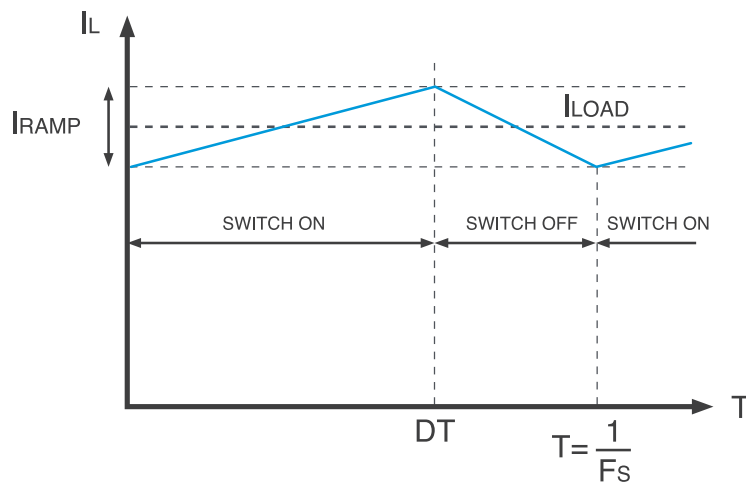

Figure 3a Continuous mode inductor current
**Figure 3a** shows the inductor current waveform for the buck converter, which can be seen to include an average DC component and the ramping up and down AC component. The average DC current in the inductor is equal to the DC load current  $I_{load}$  and under steady state conditions the total inductor current at the end of the cycle equals the value at the start of the cycle.
For a given input to output voltage difference, switching frequency and therefore  $t_{on}$ , the right hand side of eq 3 is constant. Choosing a large value of inductance L gives a smaller ramping current component, while a smaller value of inductance gives a larger current ramp. If the inductance L is made very small the current ramp may become so large that under low load current conditions the total inductor current can become zero for part of the switching period. This is called discontinuous mode and is shown in **Figure 3b** as opposed to the continuous mode in **Figure 3a** where the inductor current never reaches zero.